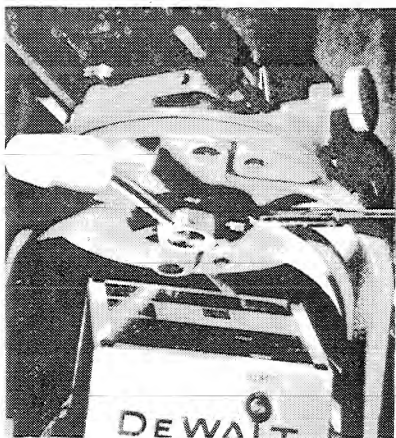

Figure 5
2. ADJUSTMENT OF YOKE CLAMP HANDLE (figure 5)